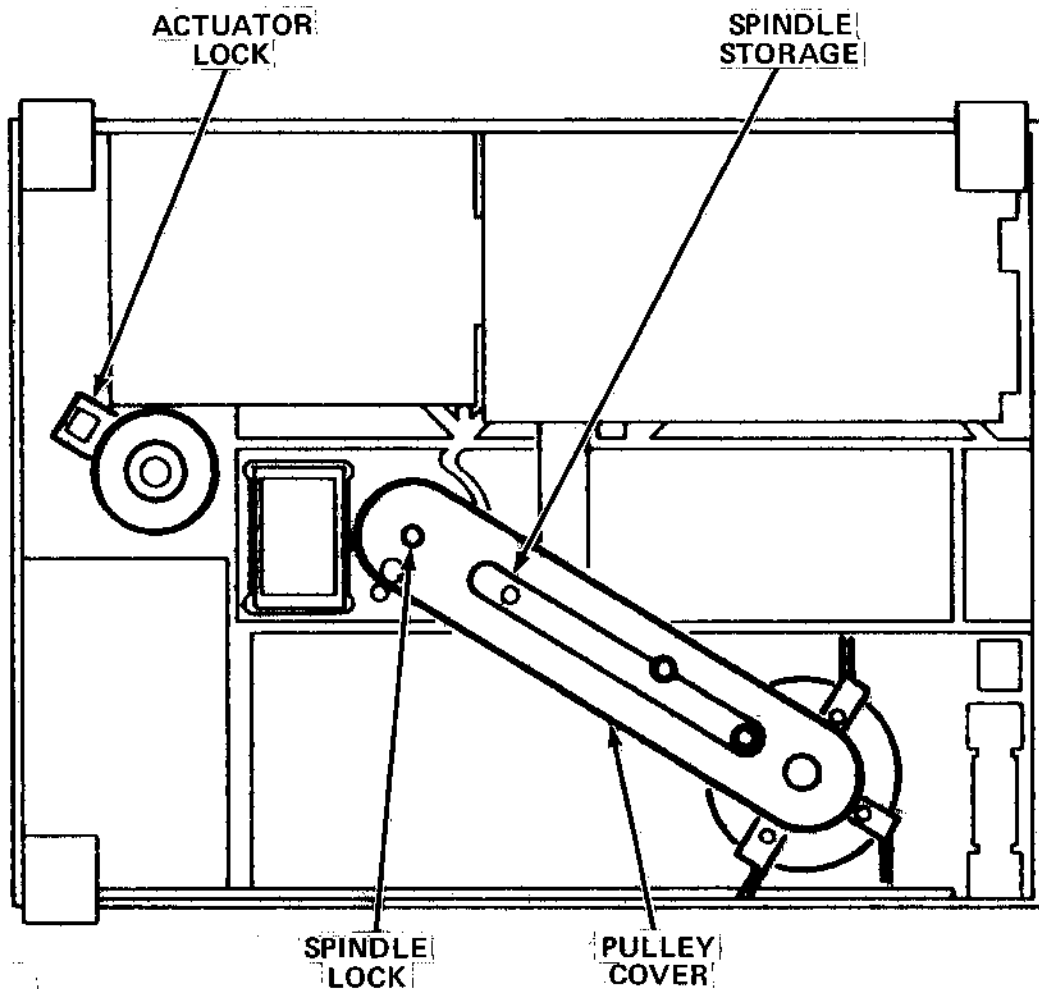

Figure 3-8: M26 Disk Drive (Spindle Lock and Actuator Lock)
**NOTE:** Before attempting to use any Morrow Designs software for the HDCA systems, be sure that the heads of the drives are unlocked. In the case of the M26, the spindle lock **MUST** be removed before power is applied (see Figure 3-8). After power is applied, the head (actuator) lock may be removed (see Figure 3-8). The M10 and M20 drives should be powered up and then the heads unlocked. Also note that the M26 drive takes as long as 2 1/2 minutes to become ready upon power-up. The M10/M20 drives require (on the average) 45 seconds to become ready.
2. Remove the cover, then unscrew the 4-40 x 9/16" spindle locking screw in the direction indicated by the yellow label in the drive pulley area (refer to Figure 3-8). This screw **MUST** be removed **BEFORE** applying power to the drive.
3. Place the external star washer and the spindle screw in the designated storage slot (again, refer to Figure 3-8). Replace the pulley cover.
6. With disk drive power ON, remove the "U-shaped" actuator lock (see Figure 3-8). Retain this lock for re-installation prior to transporting the drive.